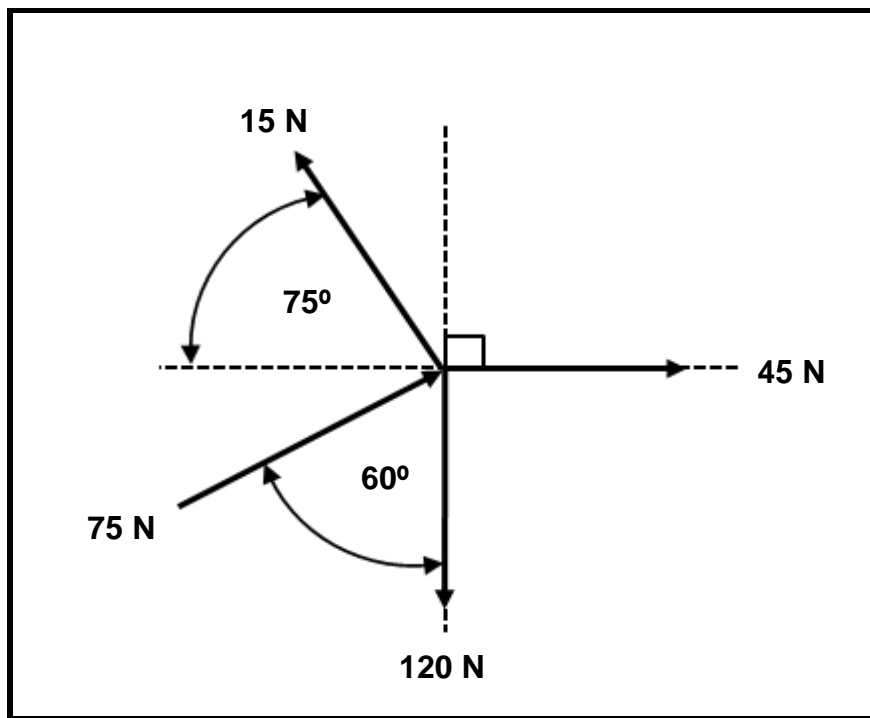

FIGURE 8.1
8.1 FIGURE 8.1 indicates a system of forces with three pulling forces and one pushing force acting onto the same point.
HINT: Draw and complete the diagram in FIGURE 8.1. Show ALL the horizontal and vertical components before you do the calculation.